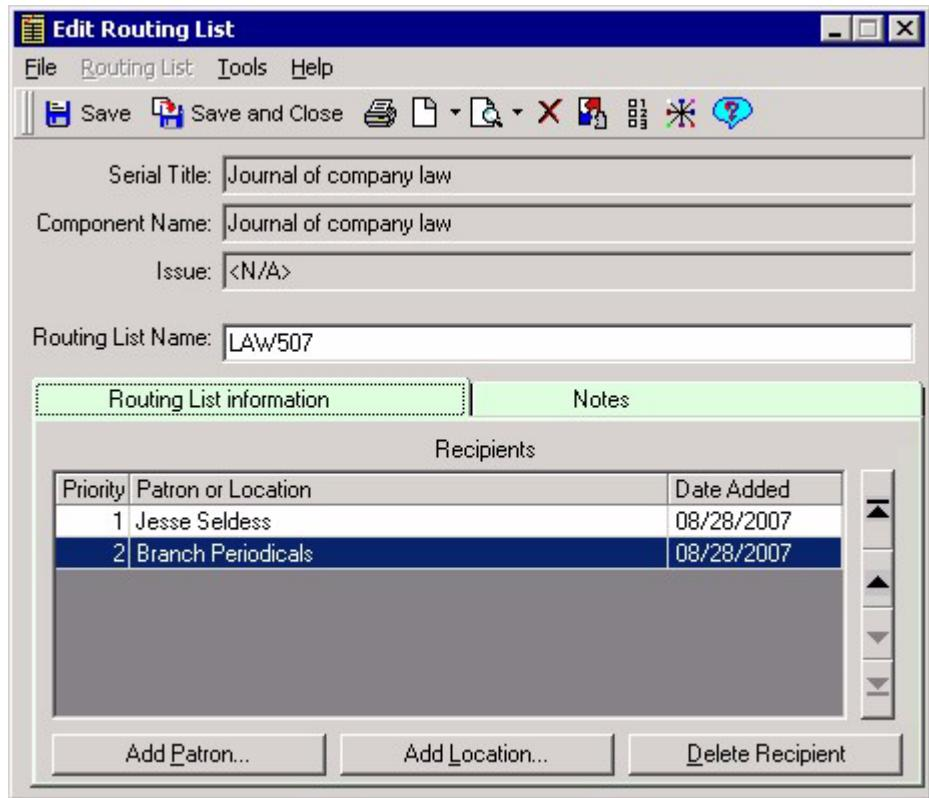

Figure 8-26. Edit Routing List dialog box
1. On the **Routing Lists** tab, select the routing list that you want to delete and click the **Edit** button. The **Edit Routing List** dialog box opens (see Figure 8-26).